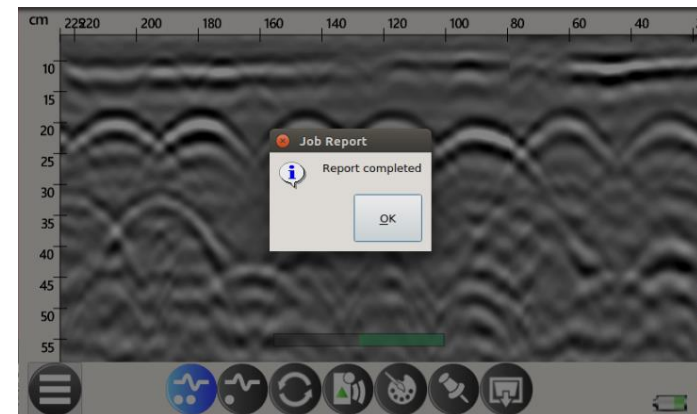

Fig. 50 – Advise when a screen shot (Job Report) is completed and saved in the survey folder.
- I.  From every screen of a single scan or Grid mode, using this button it is possible to make a screen shot of what is currently displayed on the screen (toolbar excluded). The screen shot will be saved as .jpeg file in a proper folder which will be automatically created in the survey folder; after saving, a message of “Report completed” will be shown on the screen (Fig. 50)